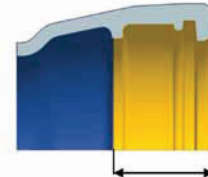

Fig. 2
- Clean the areas marked in Fig. 2 and if necessary remove accumulations of coating